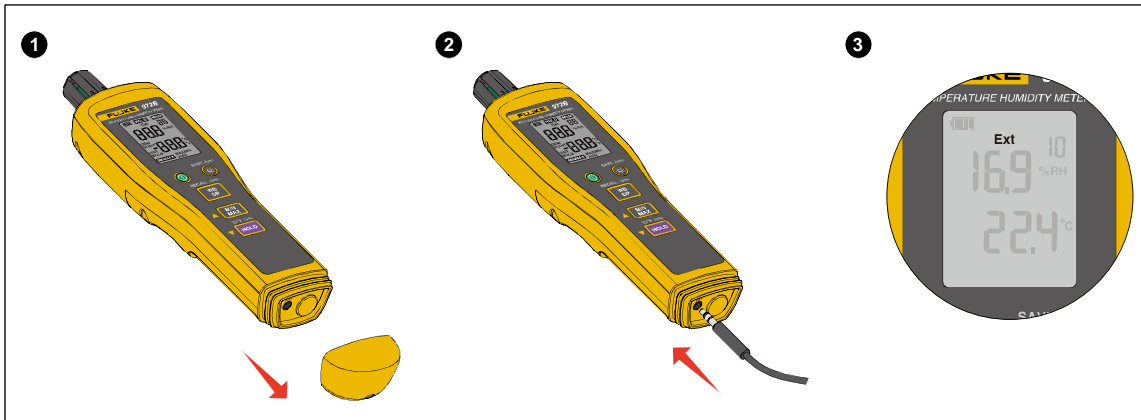

Figure 9. Connect an External Sensor
4. Confirm that the external sensor symbol **Ext** appears on the Meter's screen. See **3** in Figure 9.